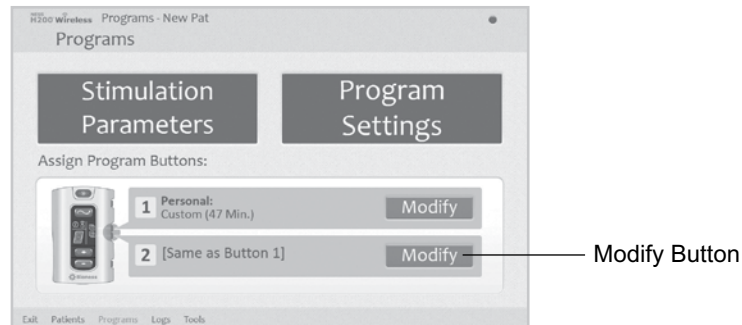

Figure 8-27: Modify Button, Assign Program Buttons Section
1. From the Programs Menu press the Modify button (next to Button 1 or Button 2) under the Assign Program Buttons section. See Figure 8-27.